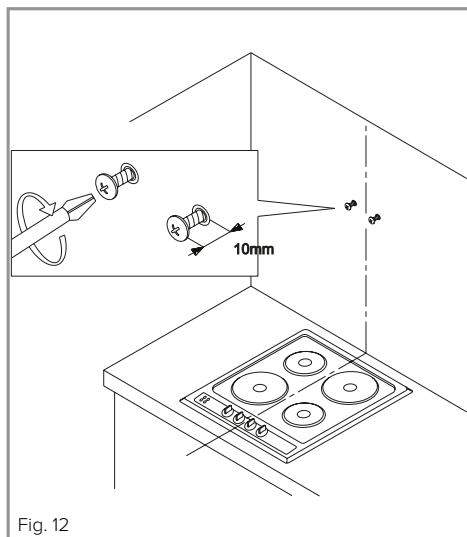

Fig. 12
- The chimney fixing bracket is mounted just below the ceiling line in Fig. 12. This is to help to ensure a flush finish.